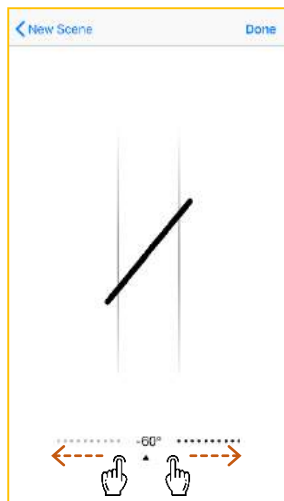

Figure 27
- ✔ **Tilt By** – change the solar panels tilt angle by dragging “points” on the “virtual window” (available only if **MAX. Efficiency** is disabled) (Fig. 27).